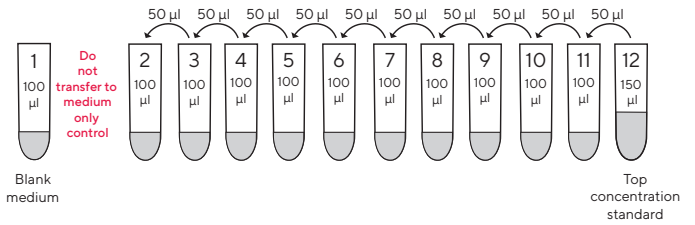
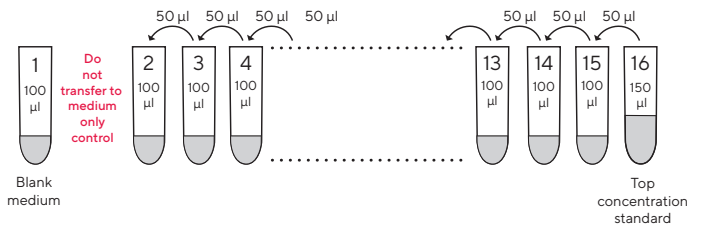

Figure 3. 96-Well Dilution Series
Figure 4. 384-Well Dilution Series
- 5.1 Prepare a 1:3 serial dilution (top concentration 50,000 pg/mL) of the reconstituted Cytokine Standards with fresh culture medium, as show in (Figure 3 for 96-well and Figure 4 for 384-well).